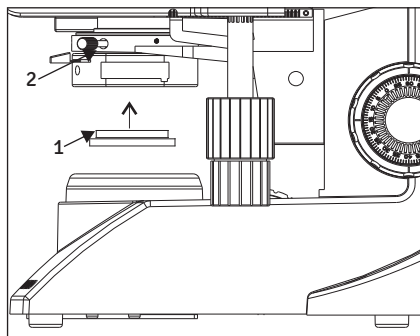

Fig. 18
- Fit the filter (1) into the bottom of the condenser (2) until it clicks into (Figure 18).